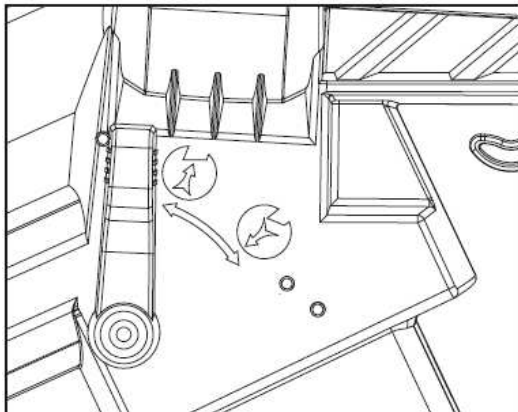

Fig. 7
1. Select the operating mode by moving the mode lever (6) to the respective symbol.
2. Move the lever (6) to the proper position to use the product as a vacuum (Fig. 7).